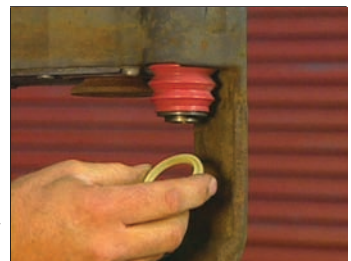

FIGURE 83 - PLACE THE RETAINING RING ONTO THE GROOVE IN THE GUIDE PIN
5.6.34 See Figure 83. To install the guide pins, first lubricate both guide pins with the white grease supplied. Insert the guide pins into their respective bores with the grooved end towards the bellows.